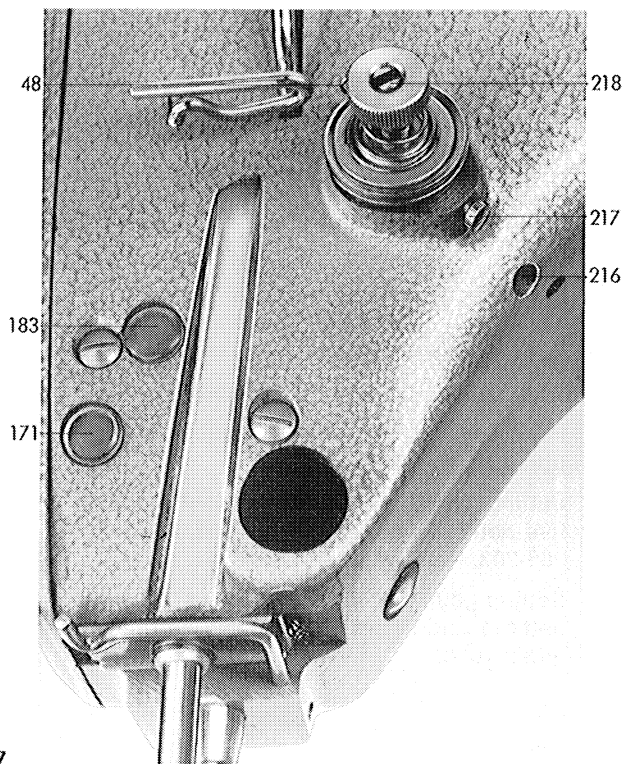

Fig. 27
2. Remove plug 171 (fig. 27),
5. Remove plug 183 (fig. 27) from the arm head and loosen needle bar fastening screw which is accessible through the plug hole.
Following the adjustment, replace the plug 183 (fig. 27) in the arm head, the feed dog, the throat plate, the throat plate slide and the foot.